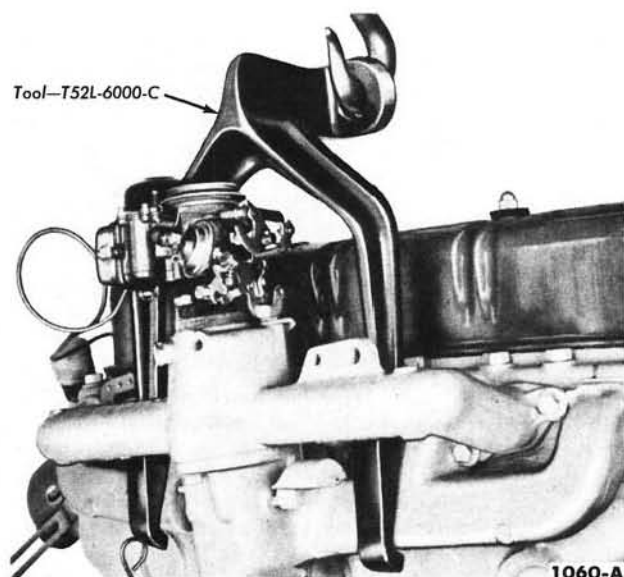
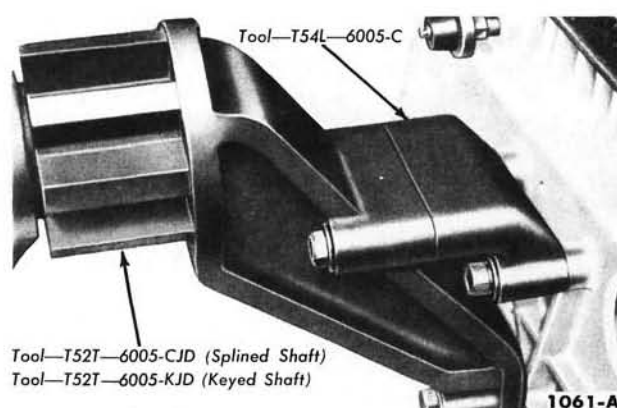

FIG. 6—Engine Lifting Hook
FIG. 7—Engine Mount
5. Attach the engine lifting hook (Fig. 6). Remove the engine right and left front support to frame bracket bolts. Lift the engine out of the engine compartment and install it on a work stand (Fig. 7).